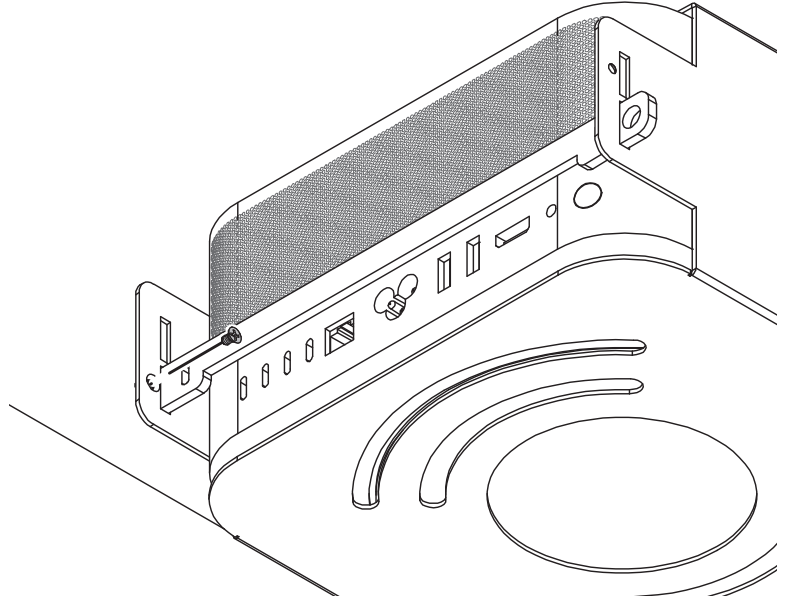

Figure 7
13. Secure the bar to the bracket with the Phillips screw you removed previously, or, for better security, secure the bar using the included T8 Torx screw using the included Torx screwdriver bit (**Figure 7**). Do not overtighten the screw.